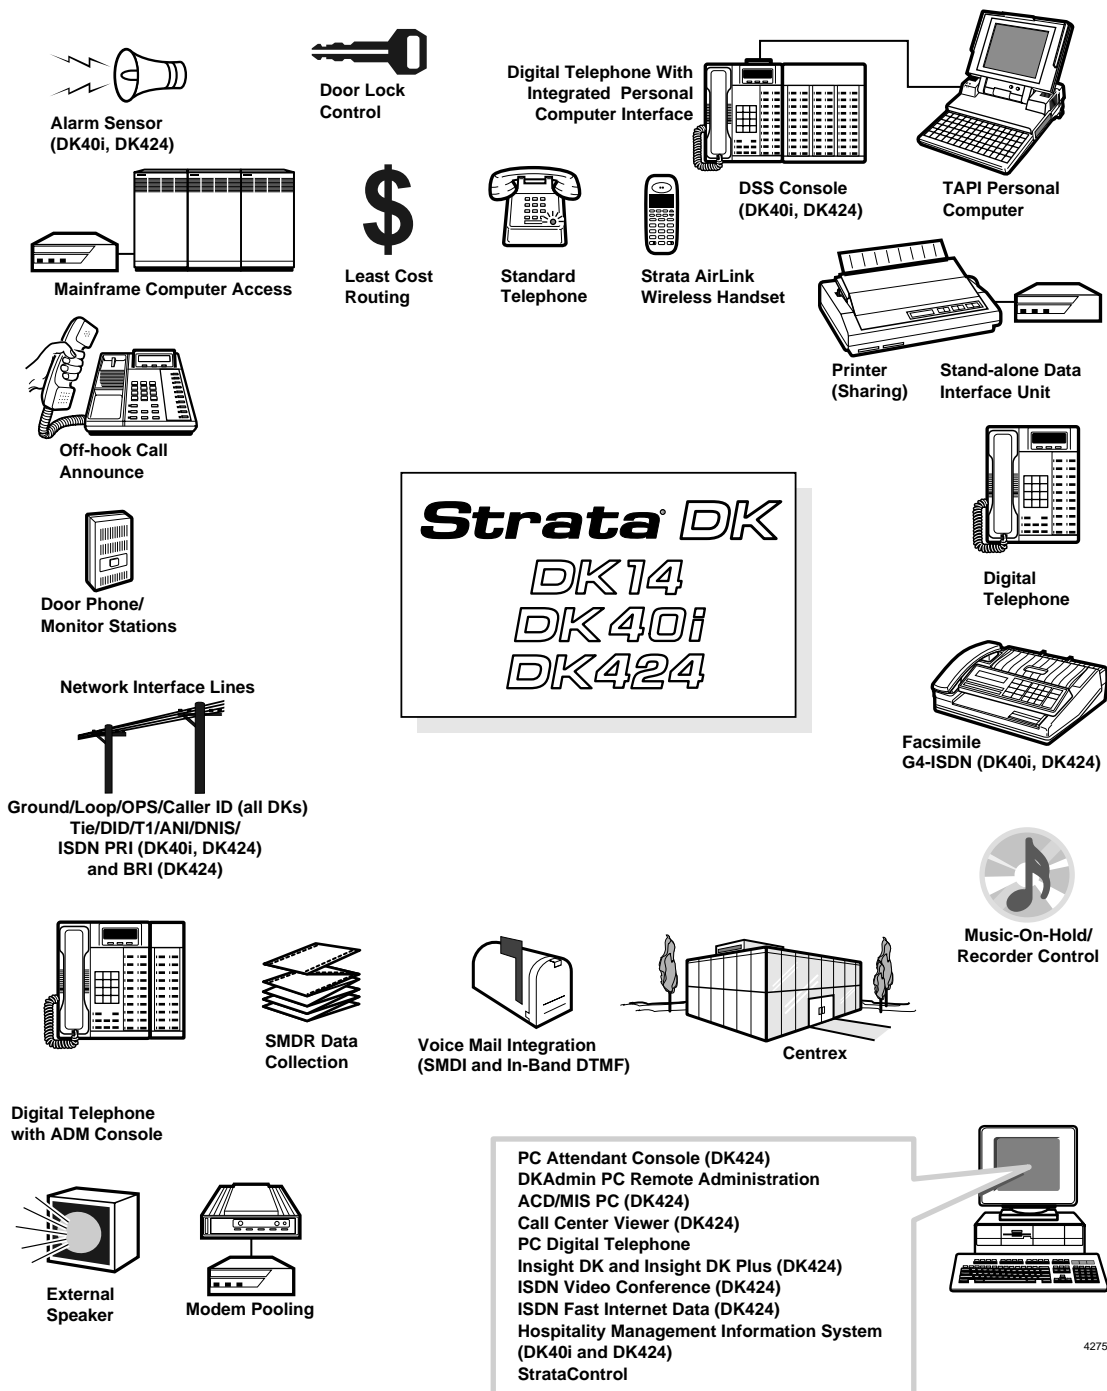

Figure 16 Strata DK Peripherals
The Strata DK supports several types of stations and customer-supplied peripheral devices, such as attendant consoles, Direct Station Selection (DSS) consoles, door phones for visitor screening, a music source for MOH, a speaker for BGM and Paging, Toshiba Strategy systems and Voice Processing (VP) for voice mail/auto attendant applications, and more (see Figure 16).